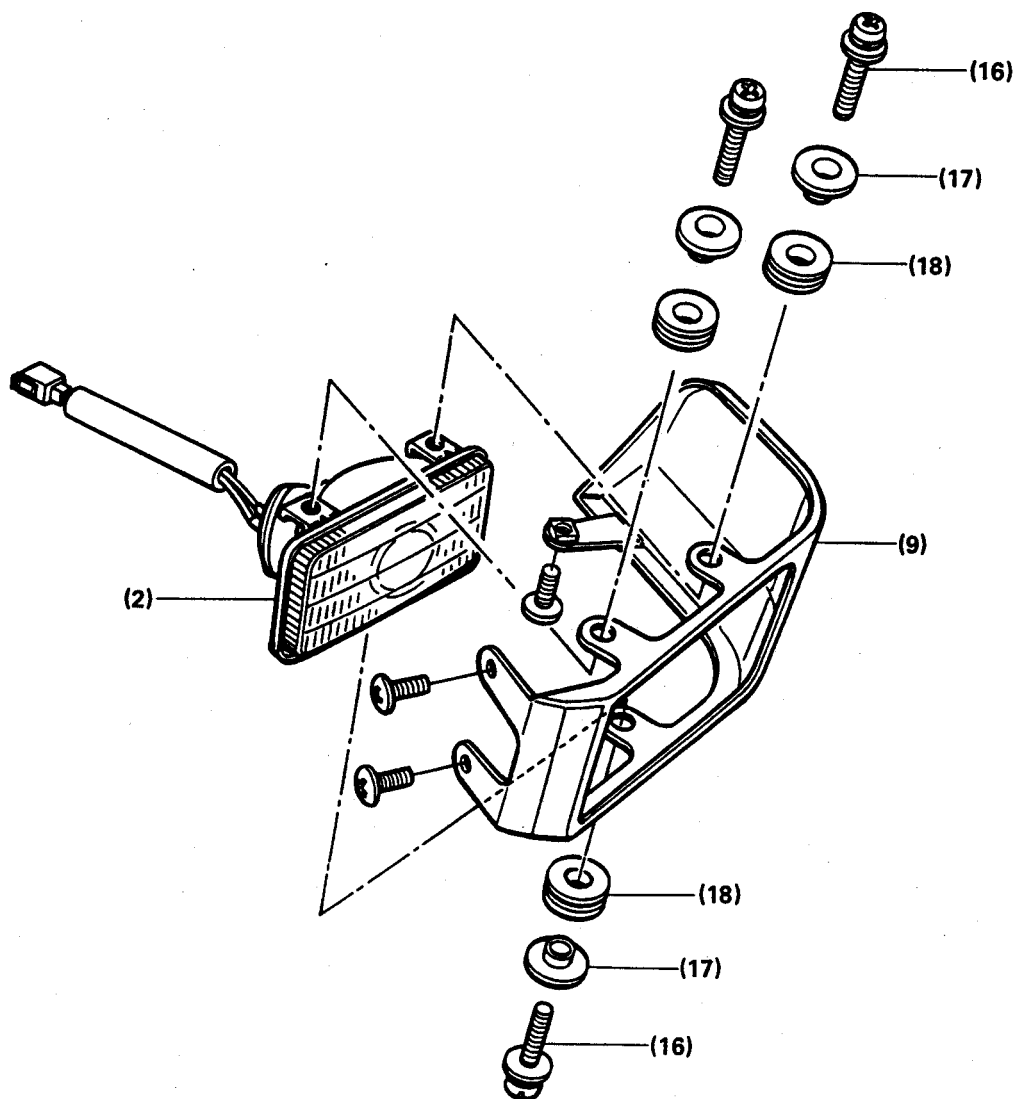

Fig. 16
- 1) Attach the left cornering lamp assembly (2) to the left lower cornering lamp cover (9) using the screws (16), the spacers (17) and the cushions (18) as shown in Fig. 16.